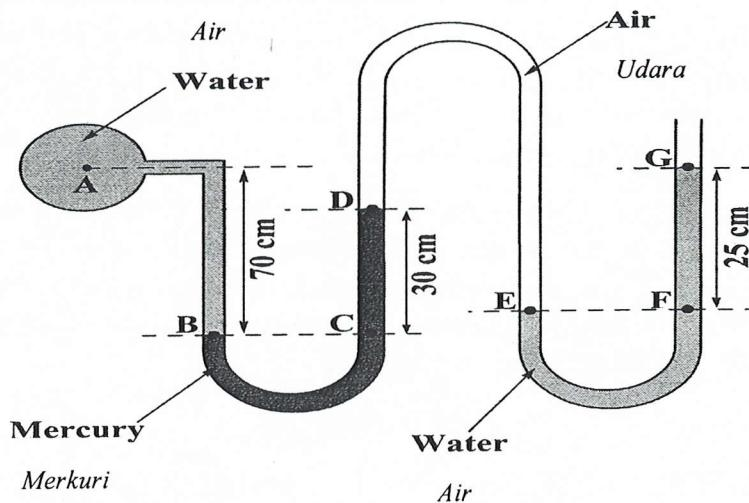

Figure Q. 2. [a]
2. [a] Figure Q. 2 [a] shows an arrangement for measuring the pressure at the centre of a pipe A. The specific gravity of mercury is given as 13.56 and the density of water is 1000 kg/m^3 . What is the pressure at point A? Given that the height of air from point E that levels with point D on the other side of the arm is 20cm.